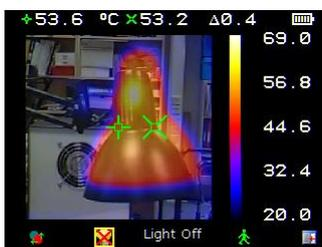

Fig. 1
1. To turn the light on press Hotkey 2  to toggle through until either the light on  (See Fig 2) or light off  icon appears (See Fig 1).